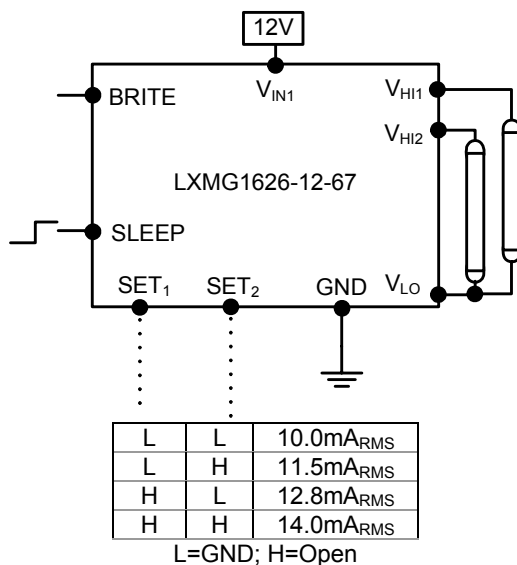

Figure 2 – Max Output Current (SET₁ and SET₂ Inputs)
- Use the SET₁ and SET₂ (see Figure 2) inputs to select the desired maximum output current. Using these two pins in combination allows the inverter to match a wide variety of panels from different manufactures. Generally, the best lamp lifetime correlates with driving the CCFL at the manufactures nominal current setting. However, the SET₁ and SET₂ inputs allow the user the flexibility to adjust the current to the maximum allowable output current to increase panel brightness at the expense of some reduced lamp life.